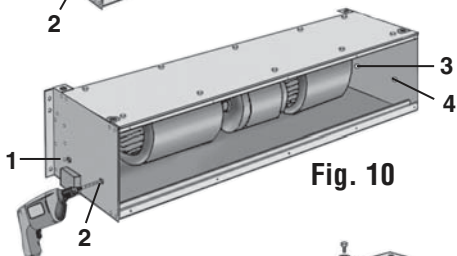

Fig. 10
3. Drill all four (4) holes using a $\frac{3}{8}$ " drill bit. (See Fig. 10)